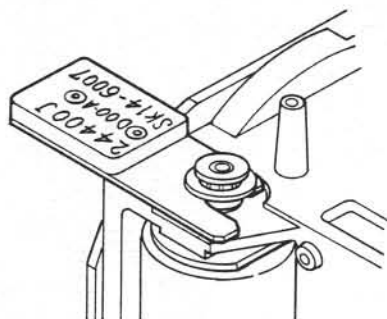

Fig. 10
- 5-6 Install Motor flange assy. (0-D4) to Motor and adjust its height by using the jig (Motor Installing Frange Spacer) as shown in Fig. 10.